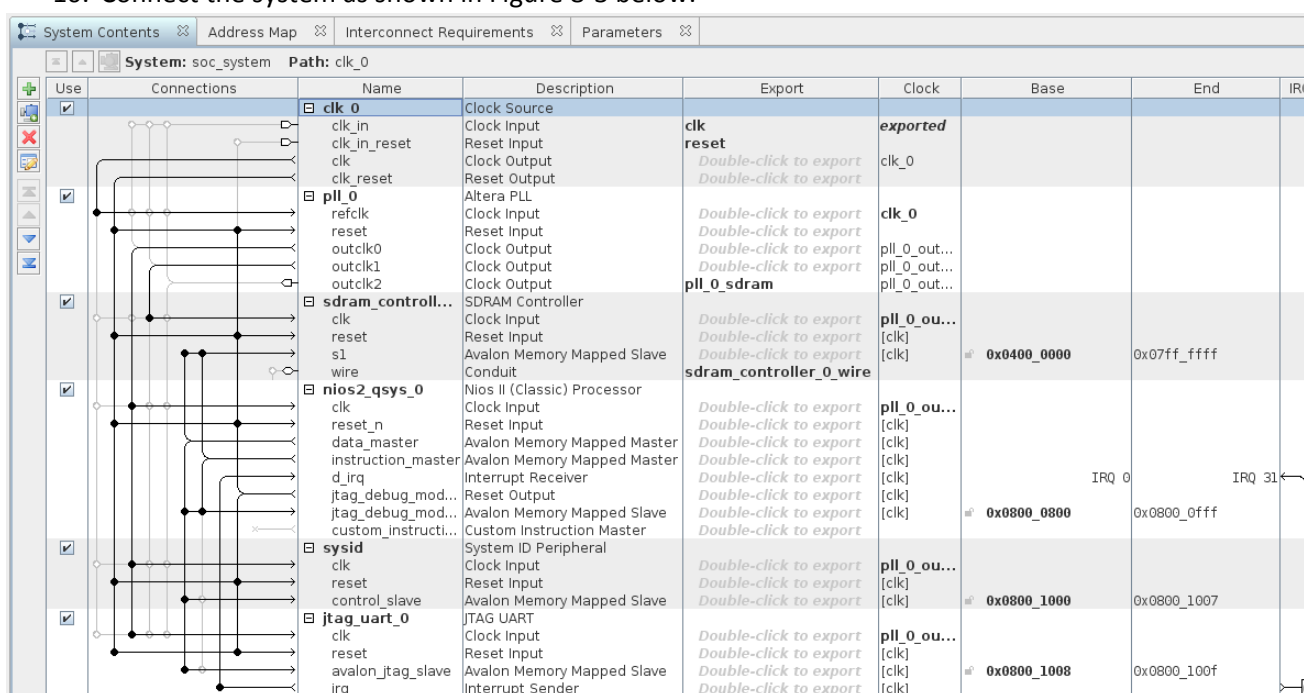

Figure 8-3. Basic Nios II System with SDRAM and JTAG UART
10. Connect the system as shown in Figure 8-3 below: